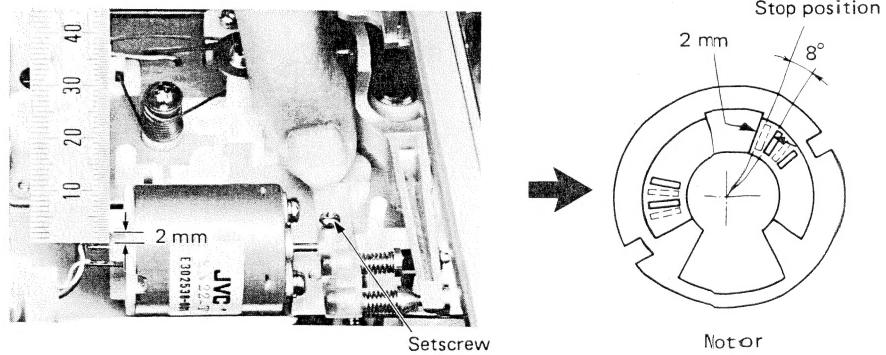

Fig. 15
- (In the state that the lead terminal section is returned about 8°, its clearance from the resin part is about 2 mm as shown in Fig. 15.)